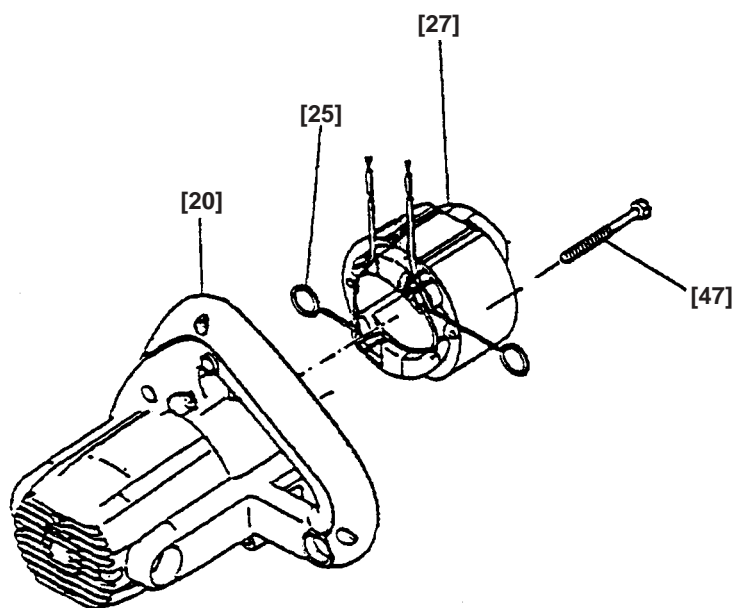

Fig. 6
(6) Removing the Stator Ass'y [27] (See Fig. 6.)